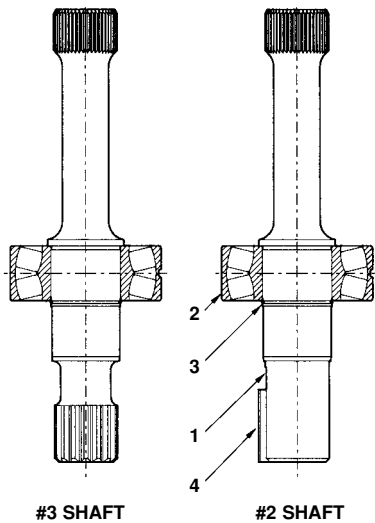

FIGURE 1
See figure 1. Slide the bearing (2) over the short end of the shaft and seat against the shoulder. Support only the inner race of the bearing and press on the long end of the shaft, to install bearing.
PARTS LIST FOR FIGURE 1